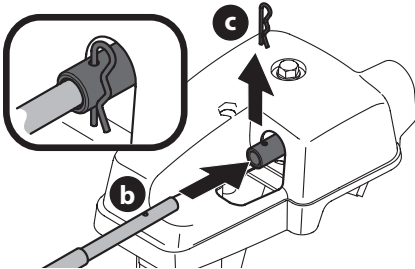

Figure 23
4. Remove hairpin clip (c) from rear of chute control head (Figure 23).
5. Insert flex shaft (b) into rear of chute control head, with hairpin clip (c) removed in Step 4 (Figure 23).